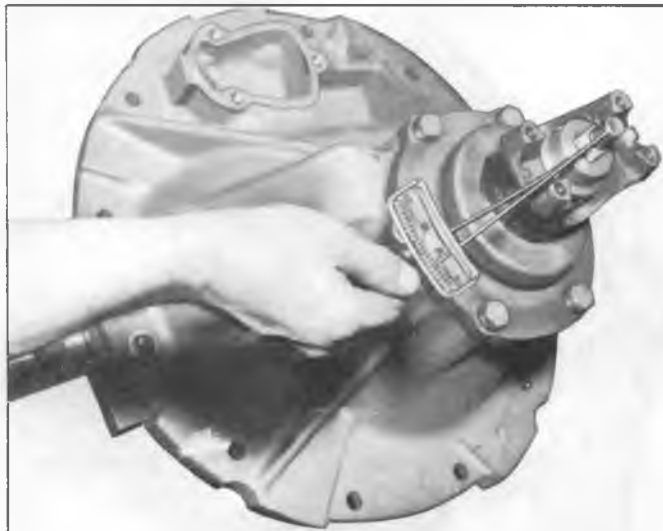

Fig. 26J--Measuring Pinion Rotating Torque
11. Continue tightening in small increments and measure until the torque required to rotate pinion is 25-35 in. lbs. for new pinion bearings or 5-15 in. lbs. when used bearings are reinstalled (fig. 26J).